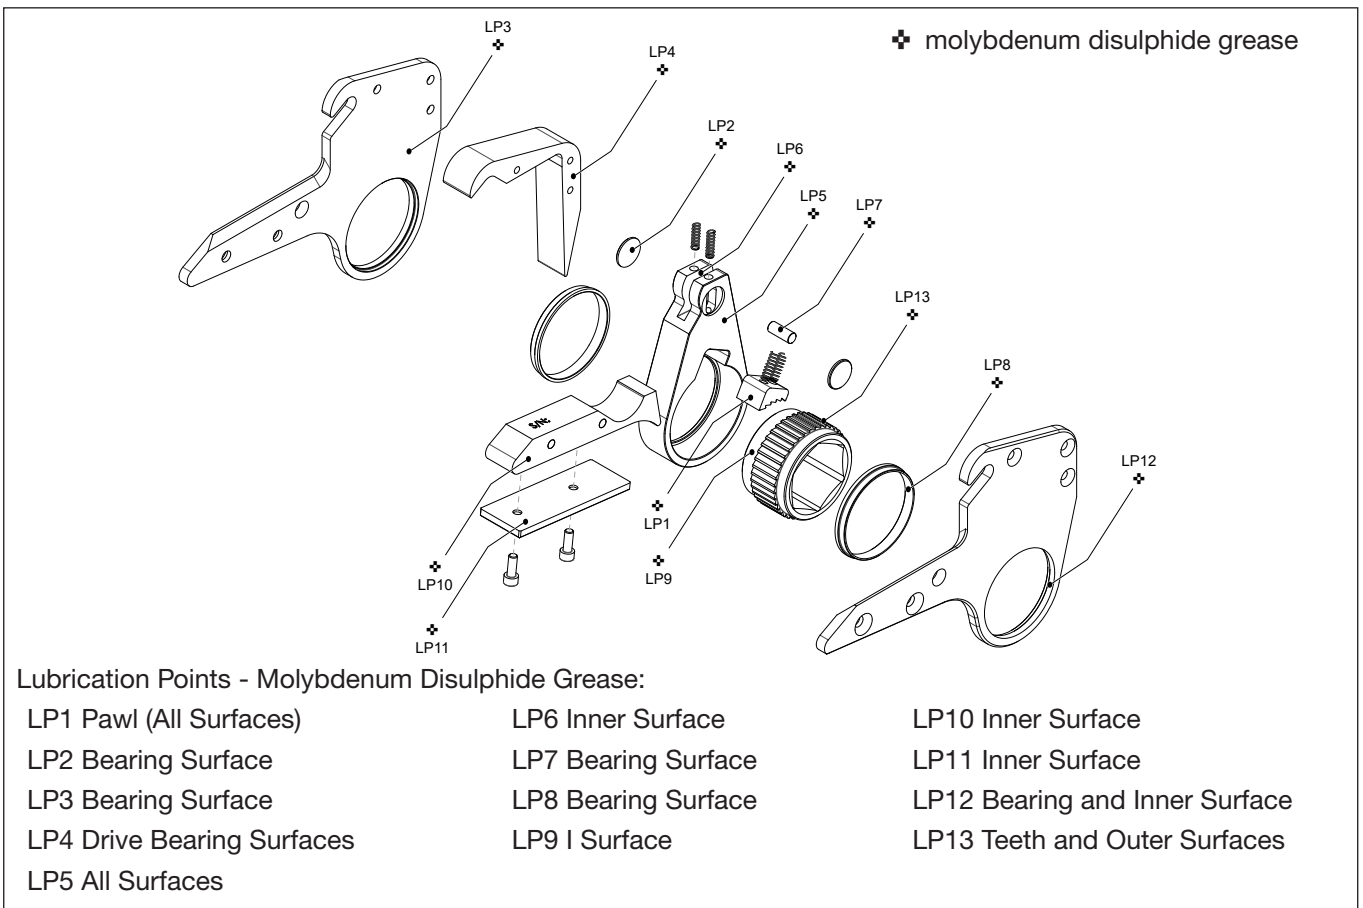

Figure 21: HMT HLP Cassette Lubrication Points
**NOTICE** Be sure that the ratchet, drive plate, pawl, pawl spring, square drive, access plugs, and compression springs are correctly installed, in the reverse order of disassembly. Ensure that the square drive is inserted through the drive plate. Failure to install these parts correctly will result in component damage. Refer to figures 21 and 22.